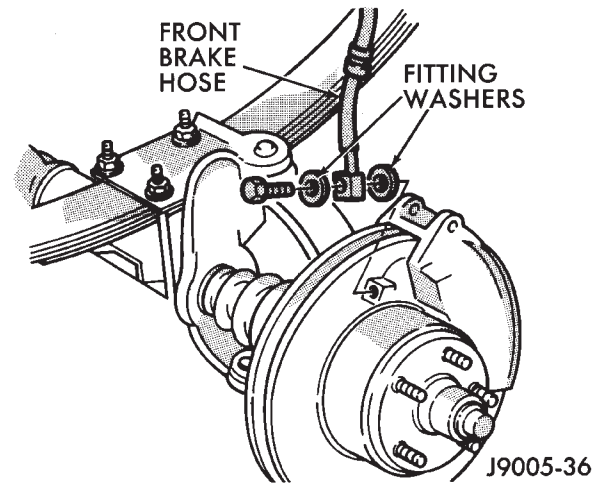

Fig. 26 Front Brake Hose And Fitting Components
(2) Connect brake hose fitting to caliper but do not tighten fitting bolt completely at this time. **Be sure to use new washers on fitting bolt to avoid leaks (Fig. 26).**
(3) Install caliper. Position mounting notches at lower end of brakeshoes on bottom mounting ledge